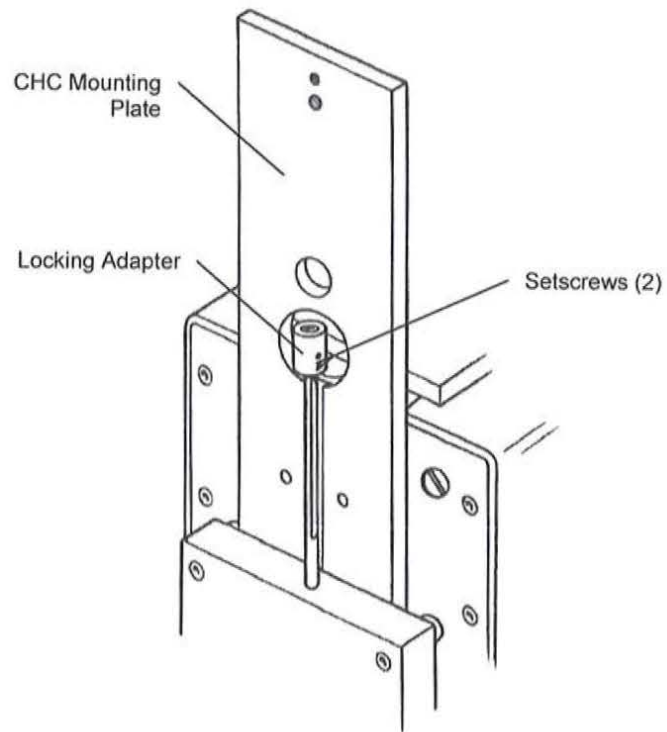

Figure 19 • Installing the Locking Adapter
- Slide the locking adapter over the rod, as shown in Figure 19.